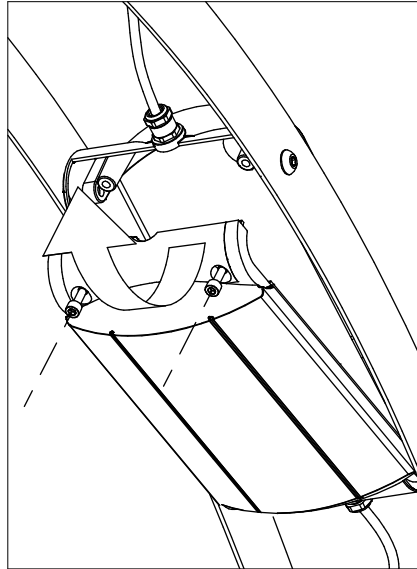

FIG. 6-2
1. ESTABLISH CONNECTION TO INCOMING POWER USING (5) WAGOS. COVER DIMMING LEADS IF ARE NOT USED. SEE PAGE 7 FOR CONNECTION DETAILS.
2. CLOSE CAST DOOR AND TIGHTEN PREVIOUSLY SAVED (2) 1/4-20 X 1 1/4" SOCKET CAP SCREWS. (FIG. 6-2)